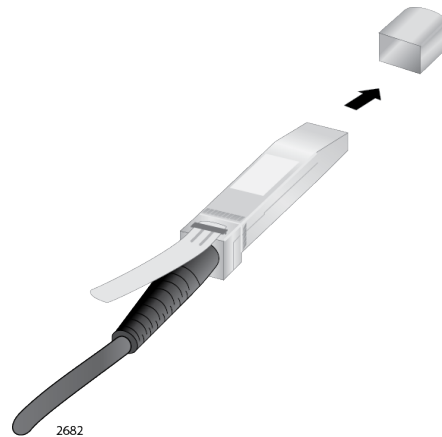

Figure 70. Removing the Dust Cover from the AT-SP10TW Cable
3. Remove the dust cap from a connector on the cable. Refer to Figure 70.